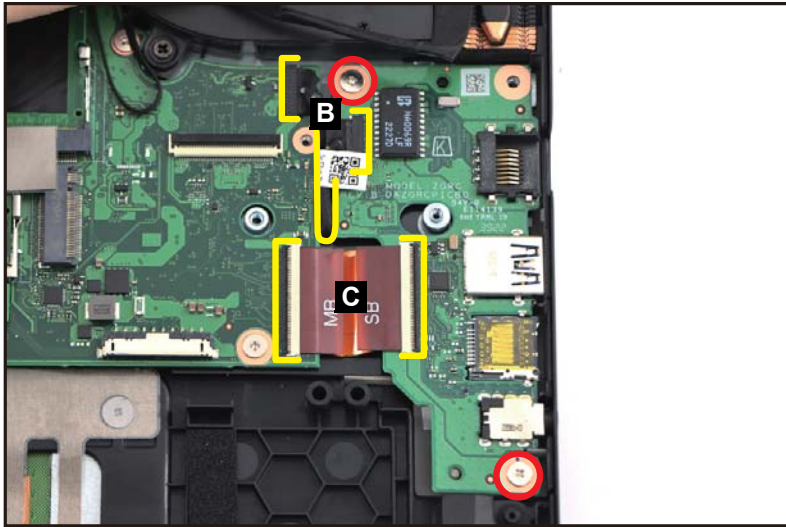

Figure 1-24. USB Board Removal
2. Disconnect the USB power cable (B) from the mainboard and USB board connectors. Then carefully unrout the cable from the gap between the mainboard and USB board (Figure 1-24). Then remove the IO power cable.
3. Disconnect the USB board FPC (C) from the mainboard and USB board connectors (Figure 1-24). Then remove the FPC.
4. Remove two (2) screws securing the USB board (Figure 1-24).